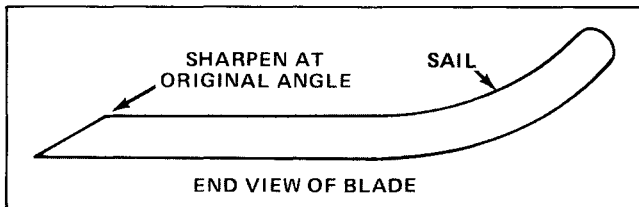

Figure 26
3. Inspect cutting edges of all blades. Sharpen the cutting edges if they are dull or nicked. Sharpen only the top side of the cutting edge and maintain the original cutting angle to make sure of sharpness (Fig. 26). The blade will remain balanced if same amount of metal is removed from both cutting edges.